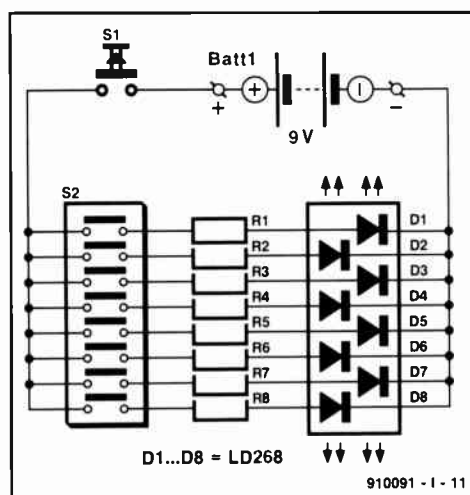

Fig. 1. Circuit diagram of the 'key' to the electronic combination lock.
The key operates as follows—see Fig. 1: all the enabled infra-red (IR) emitters are actuated by closing the normally open push-button switch. This connects battery power to the buses on the keyboard. Each of the IR emitters is wired in parallel across this power bus.